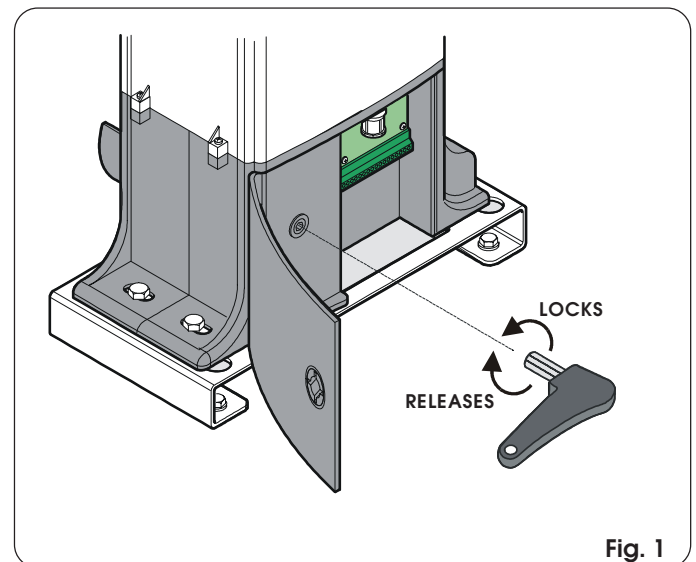

Fig. 1
- Take the supplied key located inside the door, fit it in the release system and turn it clockwise until it reaches the mechanical stop (Fig. 1).
- Turn the release key anti-clockwise until it reaches the mechanical stop (Fig. 1).